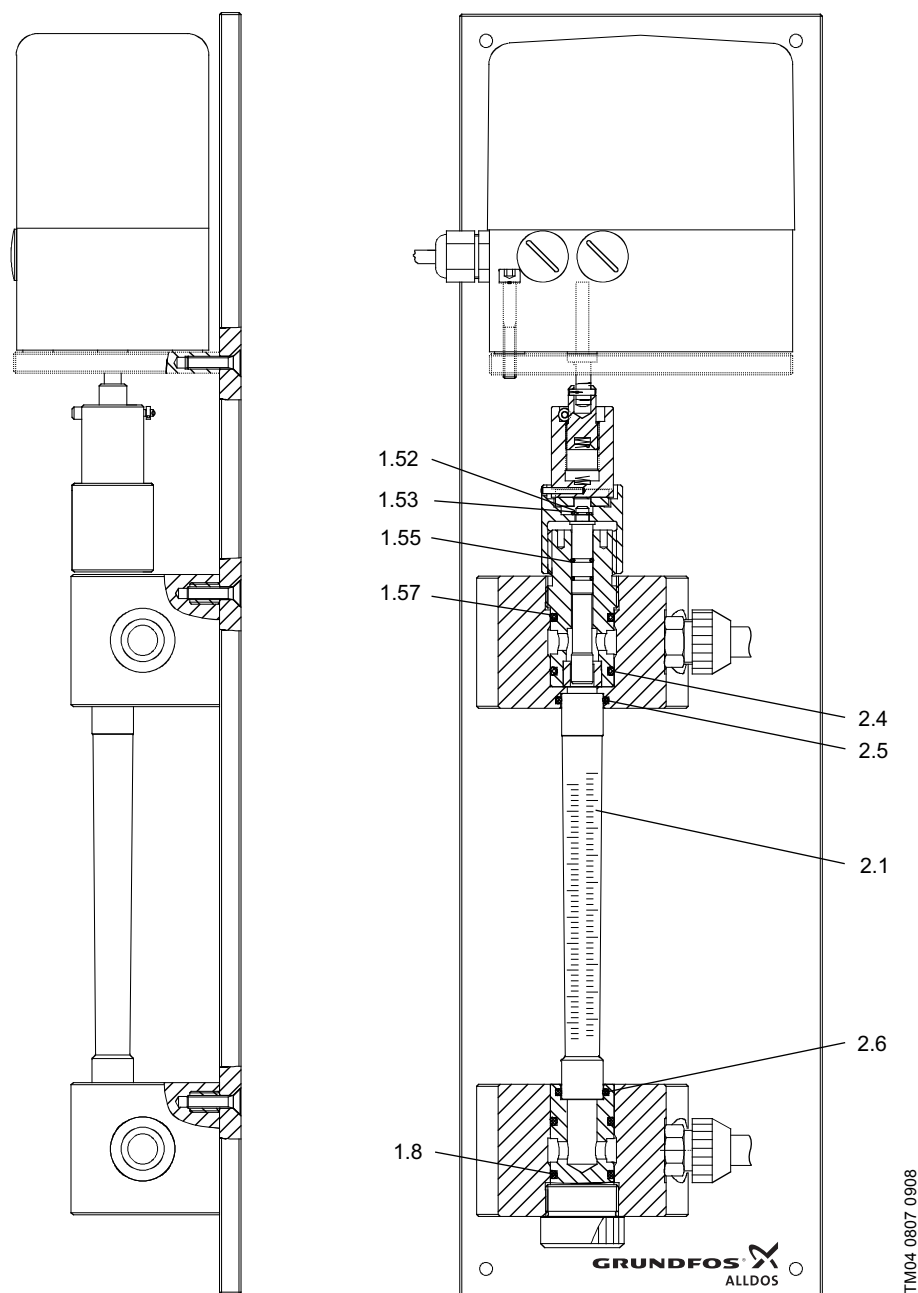

Fig. 28 Dosing regulator vaccuperm VGA-117 with servomotor
- Press out the seat (position 2.4 in fig. 28) with the cylindrical pin.
- Take off the cap (A) of the adjustment knob.
- Remove the locking ring and take out the dosing spindle (D).
- Remove the O-rings (E) of the spindle.